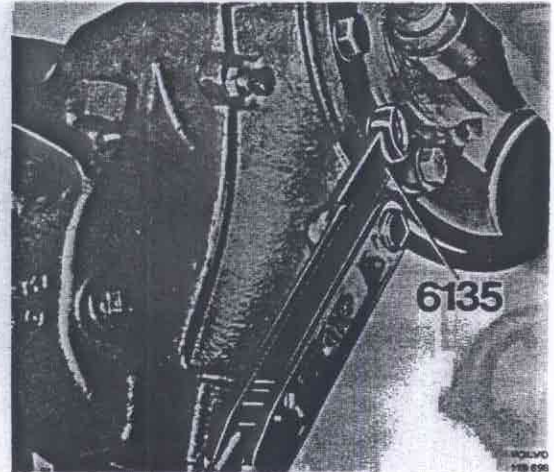

Fig. 46-36. Tighten the nuts
5. Fit the bolts round the casing. Remove the guide pins. Tighten the bolts to a torque of 100-120 Nm (10-12 kpm = 72-87 lbftf). Use 6135, see Fig. 46-36. Remove the jack.